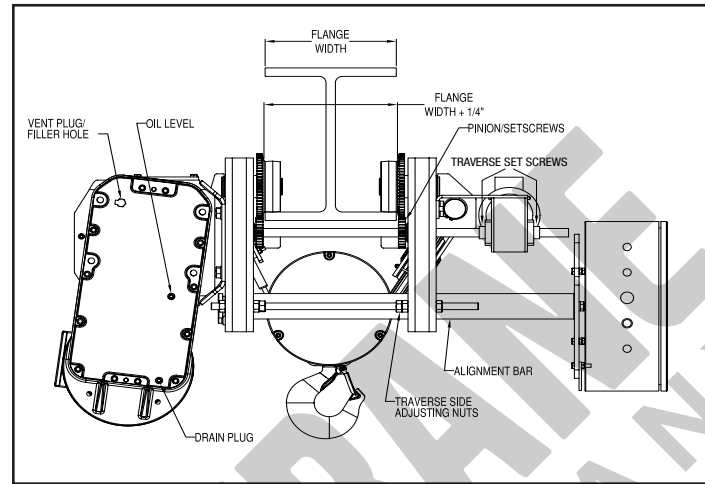

Figure 2-1. Trolley Wheel Spacing ("B" & "C" Frame Shown)
If the trolley can be installed directly from the end of the supporting beam, adjust the spacing between the trolley wheel flanges to be 3/16"-1/4" greater than the exact width of the beam flange (See Figure 2-1). Before adjusting the width of the trolley frame, make sure to loosen the pinion set screws nearest the traverse drive on the keyed cross shaft and those on the traverse reducer. Do not lose the keys for the pinion and reducer during adjustment. Also, the electrical conduit/cable must not be constrained when attempting to adjust the trolley sides, in or out. The trolley width is adjusted by loosening the jam nuts on the traverse drive side of the threaded rods at each end of the hoist. If necessary, lubricate the frame alignment bars with penetrating oil before attempting to adjust trolley width. The trolley side may then be pushed or driven into position by turning the adjusting nuts on the threaded rods. Adjust nuts on each side of the hoist simultaneously, to avoid binding. After adjusting the trolley to the proper width, tighten all adjusting nuts and setscrews, and re-secure the electrical conduit/cable. Verify that the geared wheels mesh properly with the traverse drive pinions. Using proper equipment, carefully lift the hoist and install on the end of the beam. Lubricate the wheel gear and pinion (WG, Section IV, Paragraph 4-5).
For trolleys which are to be mounted along the span of a beam not having open ends, the trolley must be adjusted in the same manner as described above to a width that allows clearance between the axle ends and the beam flange. Using proper lifting equipment, the trolley and hoist must then be lifted to the beam where it is to be installed. Once in position, adjust the spacing between the trolley wheel flanges to be 3/16"-1/4" greater than the exact width of the beam flange (See Figure 2-1). After tightening all adjusting bolts, set screws, and all electrical conduit/cable clamps, carefully set the trolley on the beam. Lubricate the wheel gear and pinion (WG, Section IV, Paragraph 4-5).
- Check Oil Level. (Figure 2-1) The gearcase has been filled with oil to the proper level. However, this should be rechecked before operating the hoist.
Check oil level by removing the Oil Level Plug indicated in Figure 2-1. When properly filled, oil should be level with the bottom of the tapped hole. Fill to this level with oil as specified in Paragraph 4-2.e.